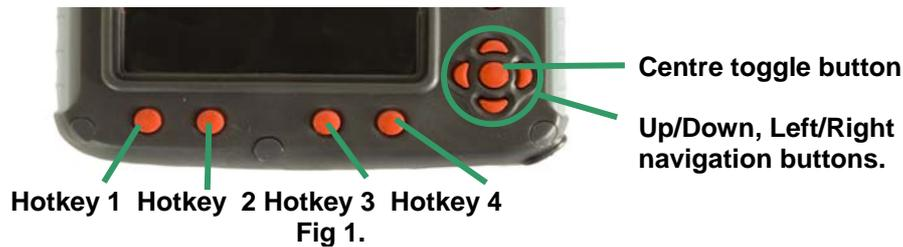

Fig. 2
2. Use the left/right navigation buttons  to move the Measurement menu  and Press Hotkey 3  to select it (Fig 2).